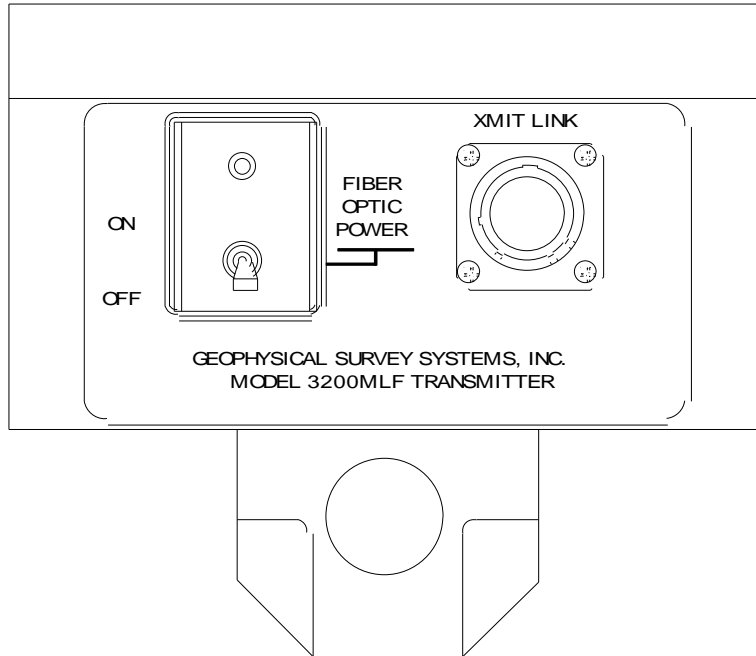

Figure 1: Model 3200 MLF Transmitter.
The model 3200 MLF is composed of separate transmitter and receiver antennas. Please refer to the connector plate diagrams (Figures 1 & 3) below when assembling the antenna units.
- 1 Connect all units and cables (Figures 1 & 2).
- The antenna is supplied with two (2) 12 VDC batteries. One is placed in the transmitter (Figure 1). The other battery is a spare that can be stored in the compartment in the receiver housing.